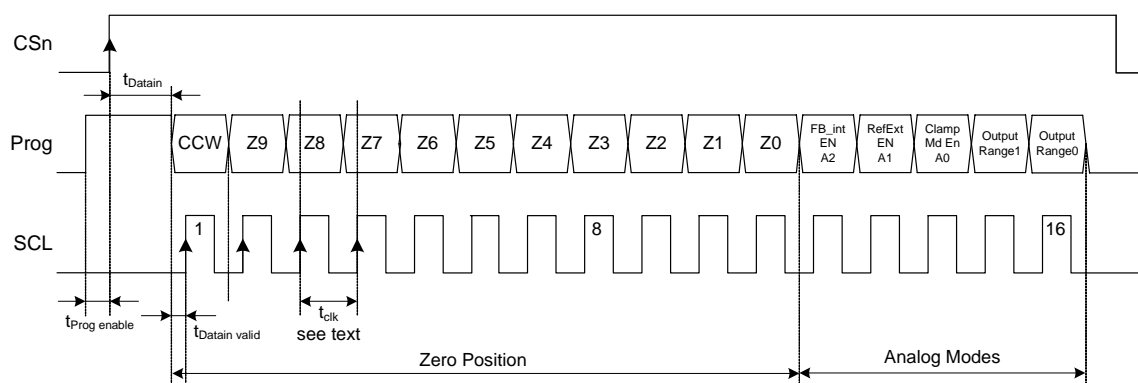
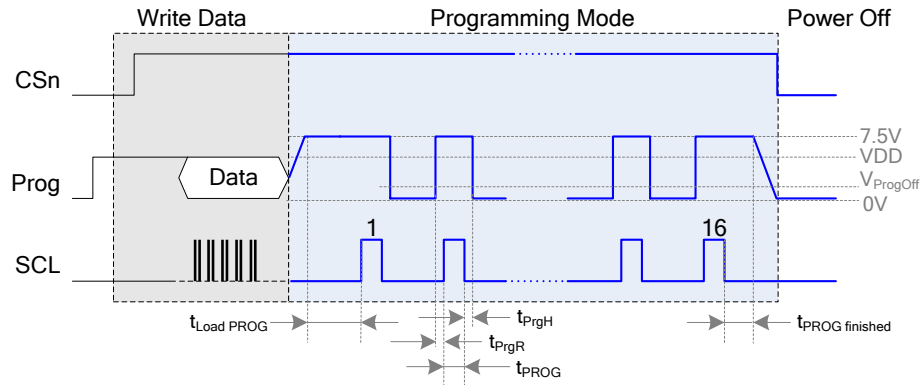
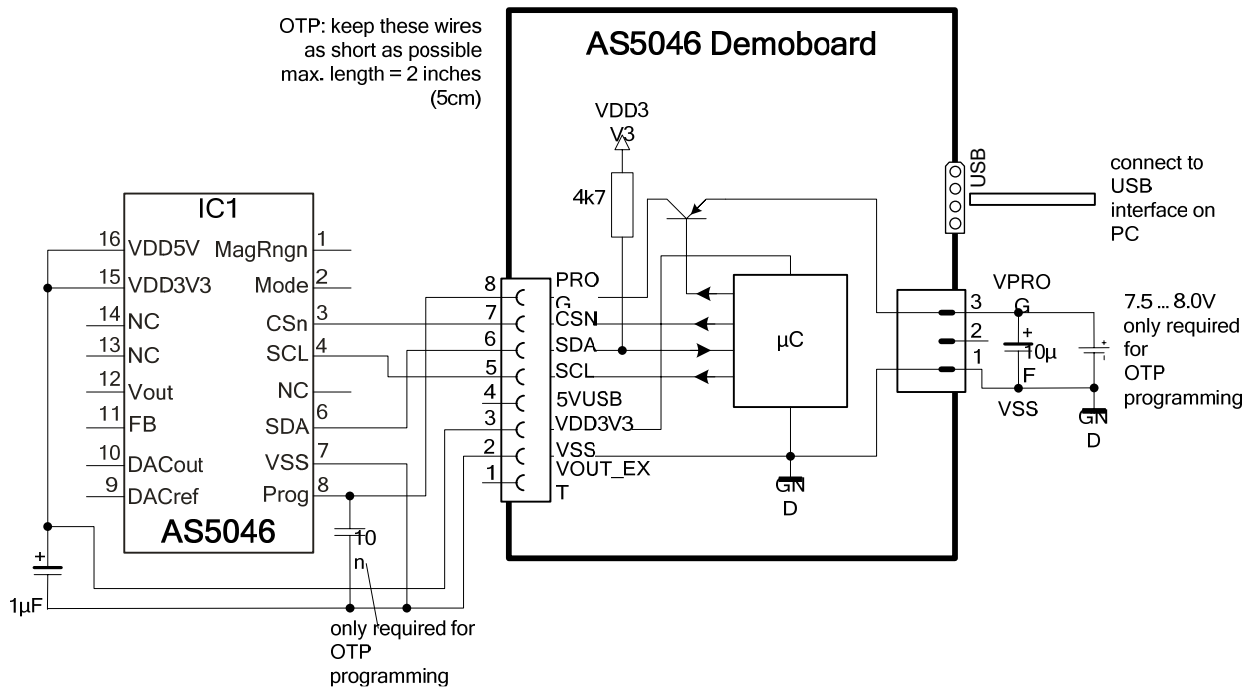

Figure 13: Programming Access – OTP Write Cycle (section of Figure 14)
Figure 14: Complete OTP programming sequence
Figure 15: OTP programming hardware connection of AS5046 (shown with AS5046 demoboard)
- Changing the address also changes the analog mode, as these OTP bits share the same position. (see Figure 13)
After power-on, programming the AS5046 is enabled with the rising edge of CSn and Prog = logic high. 16 bit configuration data must be serially shifted into the OTP register via the Prog-pin. The first “CCW” bit is followed by the zero position data (MSB first) and the Analog Output Mode setting as shown in Table 9. Data must be valid at the rising edge of CLK (see Figure 13). Following this sequence, the voltage at pin Prog must be raised to the programming voltage V_{PROG} (see Figure 14). 16 CLK pulses (t_{PROG}) must be applied to program the fuses. To exit the programming mode, the chip must be reset by a power-on-reset. The programmed data is available after the next power-up.
Note: During the programming process, the transitions in the programming current may cause high voltage spikes generated by the inductance of the connection cable. To avoid these spikes and possible damage to the IC, the connection wires, especially the signals PROG and VSS must be kept as short as possible. The maximum wire length between the V_{PROG} switching transistor and pin PROG (Figure 15) should not exceed 50mm (2 inches).
is not required for normal operation. The clock timing t_{clk} must be selected at a proper rate to ensure that the signal PROG is stable at the rising edge of CLK (see Figure 13). Additionally, the programming supply voltage should be buffered with a 10 μ F capacitor mounted close to the switching transistor. This capacitor aids in providing peak currents during programming. The specified programming voltage at pin PROG is 7.3 – 7.5V (see section 5.7). To compensate for the voltage drop across the V_{PROG} switching transistor, the applied programming voltage may be set slightly higher (7.5 - 8.0V, see Figure 15).
This procedure is essentially a “Write Data” sequence (see Figure 13) without a subsequent OTP programming cycle.
During analog readback, the capacitor at pin PROG (see Figure 15) should be removed to allow a fast readout rate.